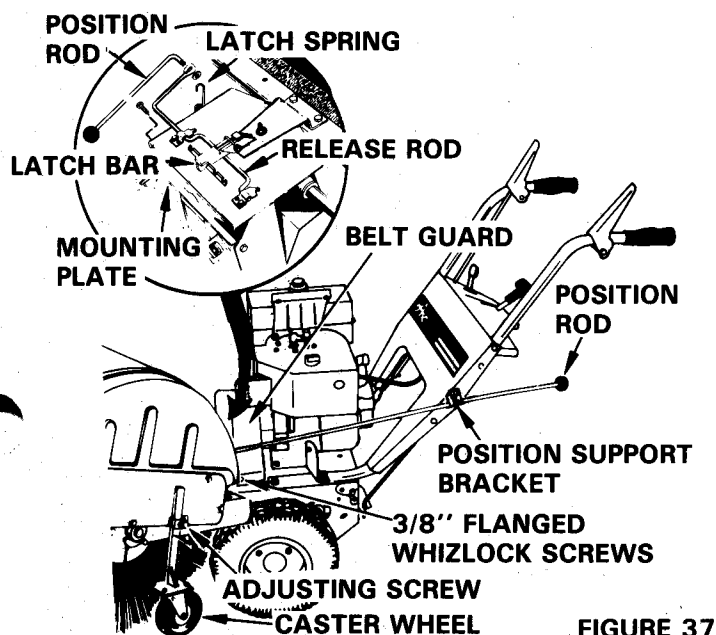

FIGURE 37
6. Install the Position Support Bracket on the left side of the handlebar panel. See Figure 37, using carriage bolt (62022) and locknut (65042).
7. Slip the Position Rod into the support bracket and install the knob on the rod. Insert the bent end of the position rod into the loop on the release rod. Secure with a washer (64002) and the bent end of the latch spring (83033). See Figure 37. Secure the other end of the latch spring to the capscrew on the left side of the mounting plate.